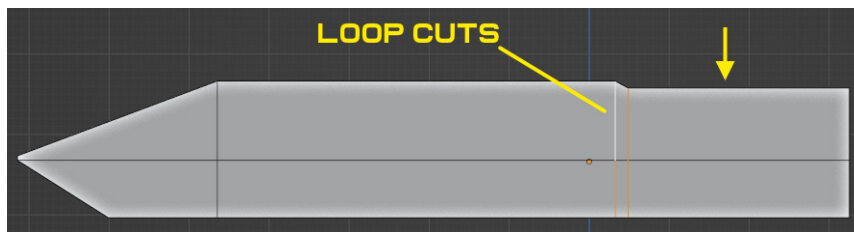

Figure 7.5 – More loop cuts
5. Add two loop cuts to the middle of the object. After loop cutting, we can slightly lower the face in the back, as shown in *Figure 7.5*: